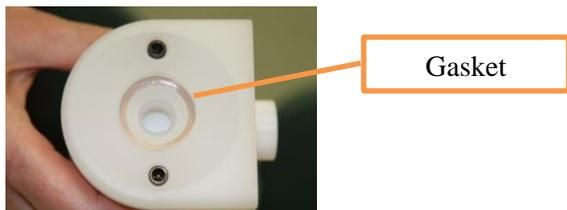

Figure 6-39. Gasket in Water Inlet Valve
- Step 4:** Place the metal screen into the Basin (A), and make sure the screen is centered within the bottom recess of the Basin. *Note*; it is very important that the metal screen stay in this recess when the SPE Disk is placed in position. If the screen slides out from the recess, it is possible that an air leak will develop, which will significantly reduce the water sample flow rate.
- Step 5:** Locate the tube of SPE C18 Disks. While holding the Basin upright, and keeping the metal screen in the recess, gently place the SPE Disk over the metal screen (B). The SPE Disk will center itself in the Basin.
- Step 6:** Slide the Riser down on top of the SPE Disk, making sure the flat bottom side is inserted into the Basin, and the small ridge side is pointing up (C).
- Step 10:** Locate one of the WIV's. Look inside the top, threaded open, and confirm a sealing gasket is in place. (Figure 6-39) Also note the position of the stop cock portion of the WIV – it should be in the CLOSED position. Once the stop cock valve is closed, holding the WIV upside down, gently thread the WIV onto the sample bottle. The valve is designed to fit a 33x400-mm common round